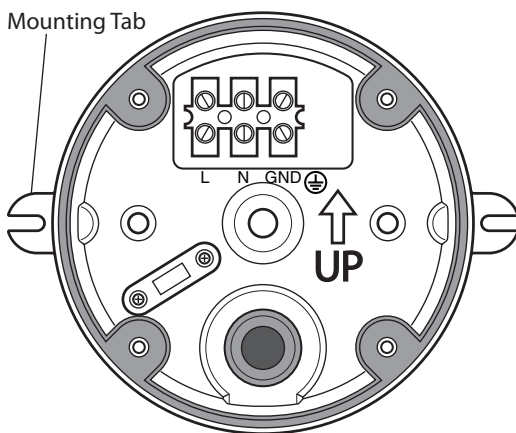

Figure 2
2. Place the canopy extension against the mounting surface and mark the positions for the mounting screws (see Figure 2). *Note:* When positioning the canopy extension for mounting, do the following:
- Make sure the canopy extension is turned as shown in Figure 2